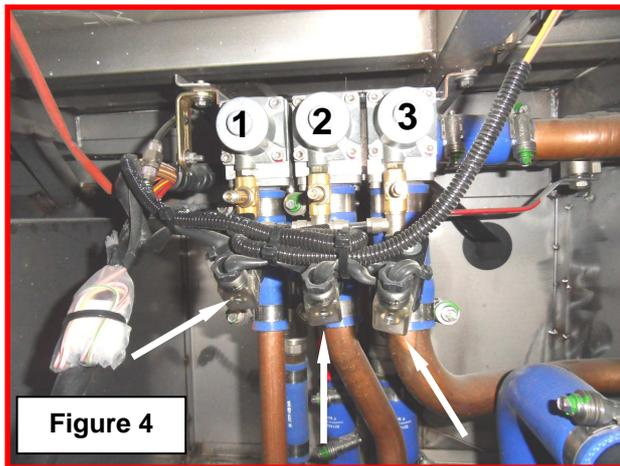
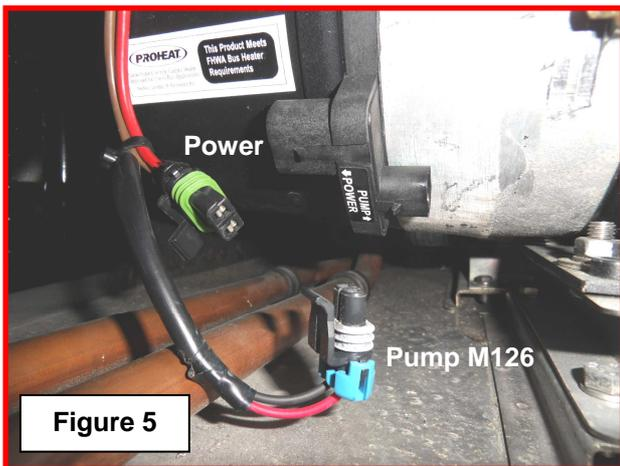

Figure 4
Figure 5
NOTE: SB1220 details the proper sequence to open the valves and turn on the pump. However, if you are unable to obtain a copy of SB1220, the valves can be manually opened by removing the valve solenoids (Figure 4). The pump can be engaged by connecting a jumper between the auxiliary heater power connector (red and brown cable) and the pump connector (red and black cable). These connectors are located at the bottom of the auxiliary heater (Figure 5). The manual procedure is detailed below.
- 2) Once stable, open the heating circuit valves by removing the valve solenoids and engage the boost pump, Figures 4 and 5. Allow the boost pump to run for 5 minutes.
- 3) Turn off the boost pump and reinstall the solenoids to the valves (Figures 4 and 5).
- 6) Remove the solenoid of the left-hand valve for the floor heaters (1, Figure 4).
- 7) Remove the solenoid of the center valve for the driver's heater (2, Figure 4).
- 8) Remove the solenoid of the right-hand valve for the roof heater circuit (3, Figure 4).
- 9) Remove the solenoids of the left-hand and center valves (1 and 2, Figure 4).